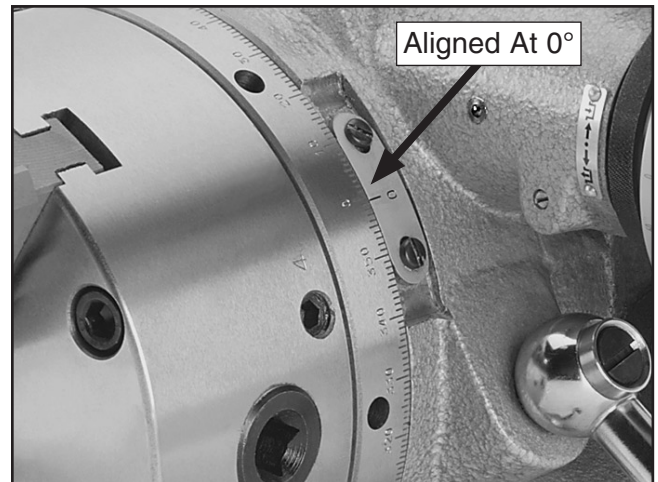

Figure 13. Degree scale at 0°.
2. Unlock the indexing lever, turn the face of the rotary table until the zero mark on the degree scale and the index marker are aligned, as shown in **Figure 13**, then re-lock the indexing lever.